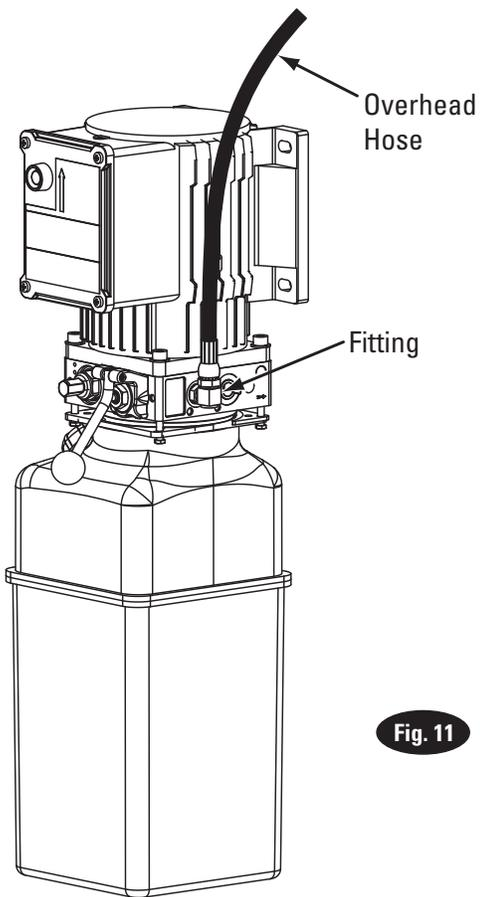

Fig. 11
8. Verify hydraulic return line fitting is located on fluid tank, Fig. 11. If not, install included return line fitting to power unit, Fig. 12.